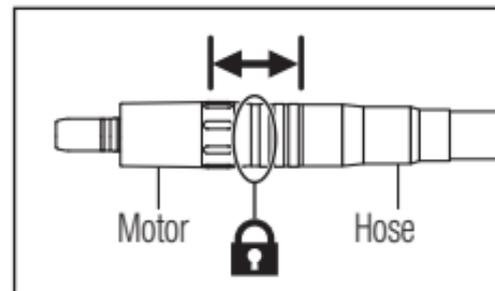

Fig. 3
- ② Make sure the motor is connected firmly to the hose (Fig. 3).